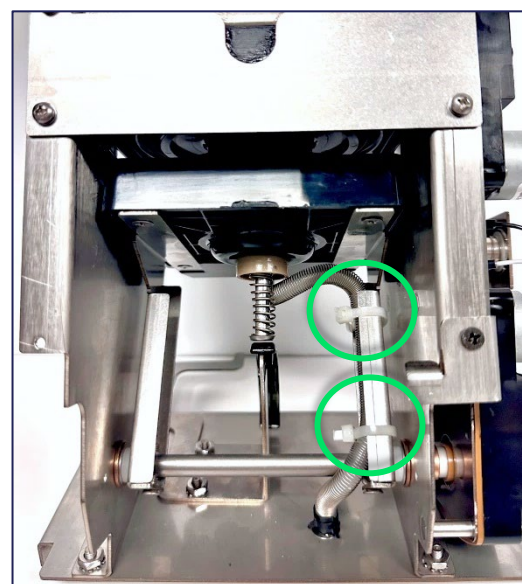

Fig. 9
7. Use the 2 zip ties provided to attach Brew Tube to Lower Chamber frame (Fig 9.)